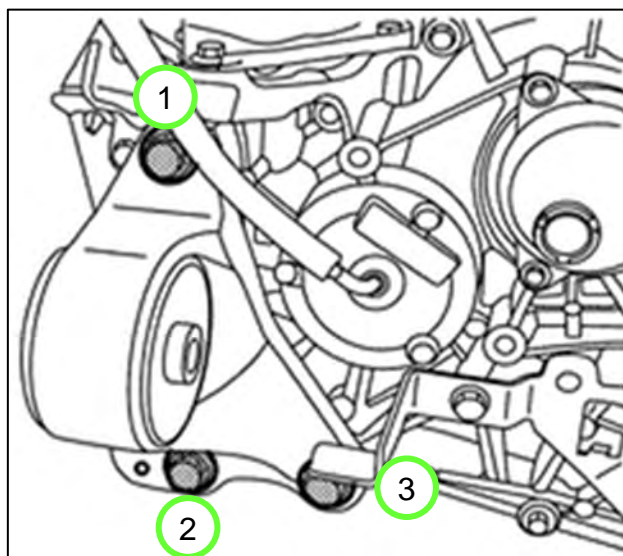

Figure 119
142. Torque the passenger (RH) side Motor Mount bolts in the following order: **2 > 3 > 1**, refer to Figure 119.